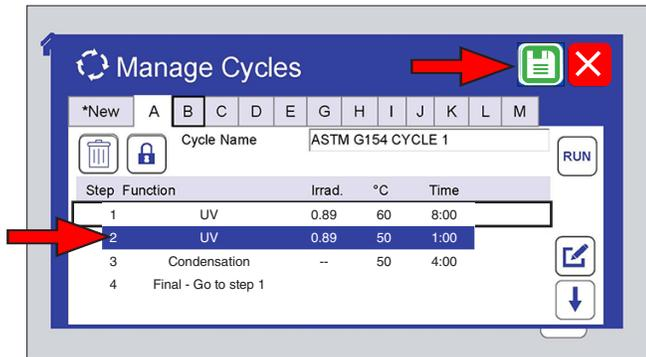
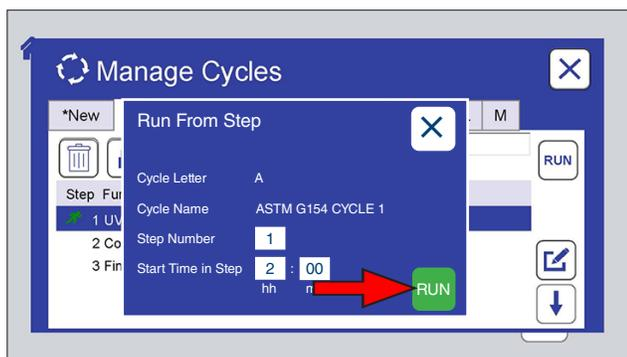

Figure 11.7.8a: Follow Figure 11.7.4a through Figure 11.7.4h to add steps and save the new cycle.
Figure 11.7.8e: Touch the Run icon to run the step from the time entered.
- Run a cycle from any of its steps (Figure 11.7.8a through Figure 11.7.8e).
- The QUV main controller can store thirteen (13) test cycles.
- A test cycle can consist of up to twenty-five (25) steps.
- Figure 11.7.8a through Figure 11.7.8e below show how to choose directly where in a program cycle to begin a test.